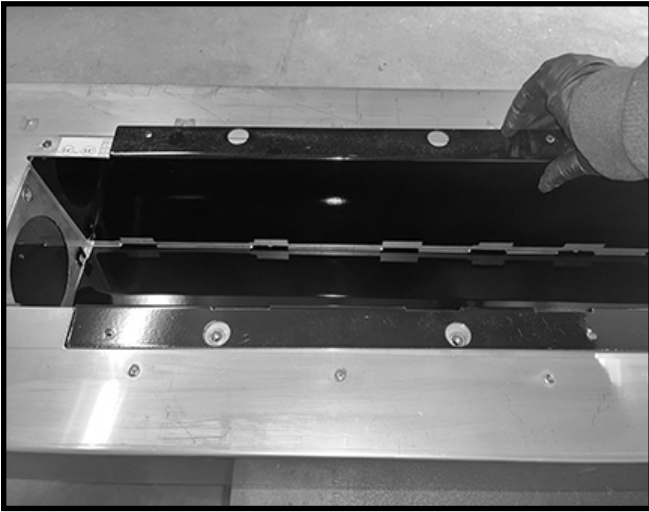

Figure 42: Reinstall porcelain panel.
4. Reinstall the decorative porcelain panel on the rating label side (Figure 42).